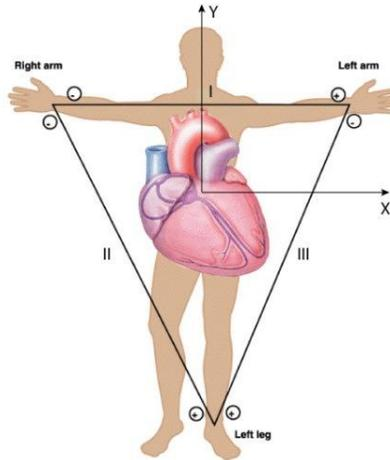

Figure 7: 3-lead ECG electrode placement
- The schematic that will help you to make the correct connections is represented in Figure 7 below: